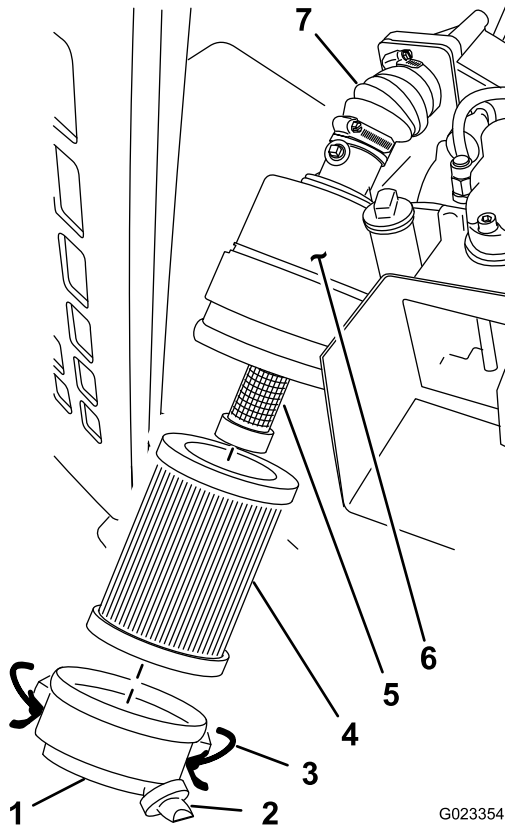

Figure 61
3. Release the latches on the air-filter cover and pull it off of the air filter housing (Figure 61).
- A. Install the air filter cover with the dust cap facing down and back, and secure the latches on the filter cover (Figure 61).
1. Release the latches on the air-filter cover and pull it off of the air-filter housing (Figure 61).
2. Gently remove the primary-air filter from the air-filter housing (Figure 61).
3. Gently remove the secondary-air filter from the air-filter housing (Figure 61).
5. Install the secondary-air filter into the air-filter housing (Figure 61).
6. Install the primary-air filter into the air-filter housing (Figure 61).
- Install the air-filter cover with the dust cap facing down and back, and secure the latches on the filter cover (Figure 61).